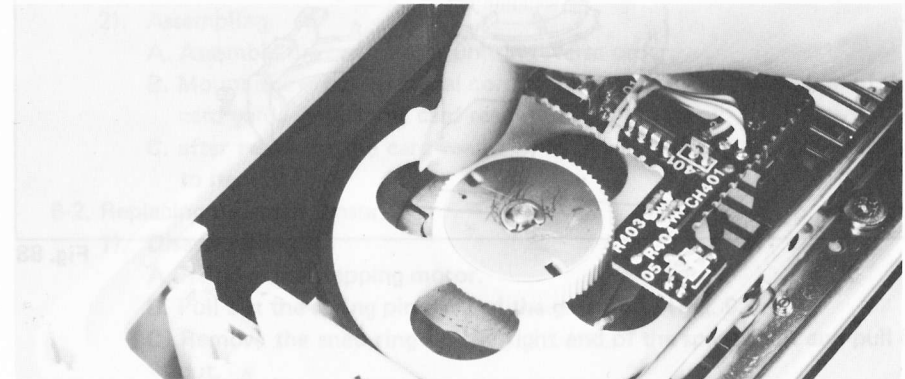

Fig. 87
F. Adjust the pully adjusting plate for a clearance of 0.3 mm – 0.6 mm and fasten the screw. (Fig. 87)